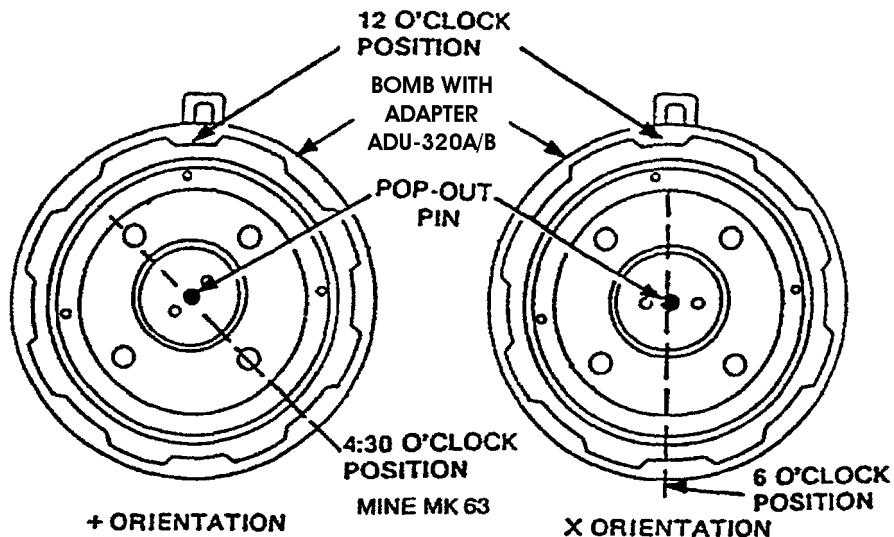

Figure 4-11E. Pop-Out Pin Orientation
d. Ensure pop-out pin has been oriented for + or X fin orientation (Figure 4-11E).